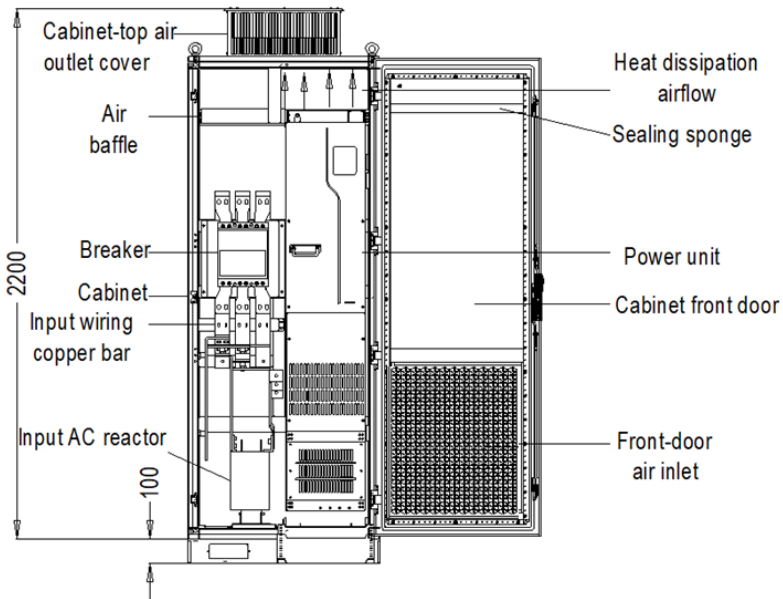

Figure 4-10 Recommended cabinet layout
- ✧ For in-cabinet mounting, see the cabinet layout diagram Figure 4-10. The cabinet frame is 2200*800*600 (unit: mm, including the H200 cabinet ventilation top cover). To secure the in-cabinet mounting, you must mount the H100 cabinet base. The air baffle must be mounted at the top of cabinet to prevent the hot air in the VFD outlet from circulating within the cabinet. A 40X40 sealing sponge must be used at the position corresponding to the air baffle in the front door panel, which prevents air duct short circuit. In addition, air inlet vents must be made at the lower of the cabinet door.